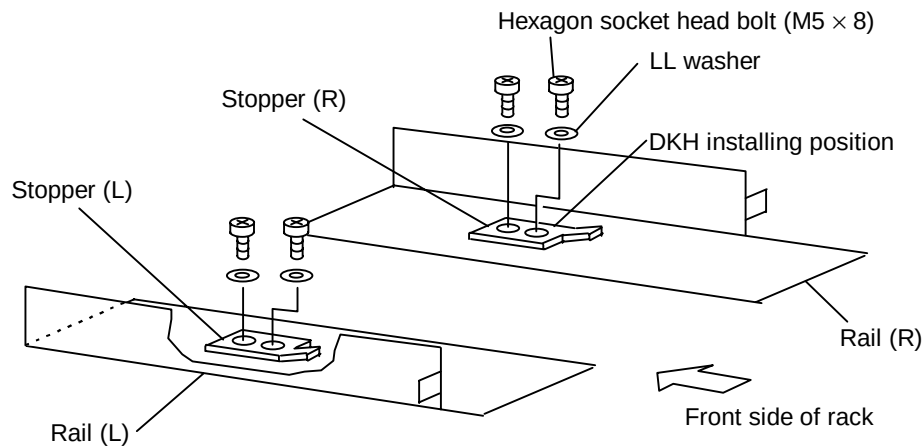

Figure 2.4.1 Temporary Attachment of the Stopper
2.4.2 Installing the rails (See Figure 2.4.1 and 2.4.2.)
- (1) Temporarily secure the Stopper (R) to the Rail (R) using Hexagon socket head bolts (M5 × 8) and Washer (M5) (at two places). (See Figure 2.4.1.)